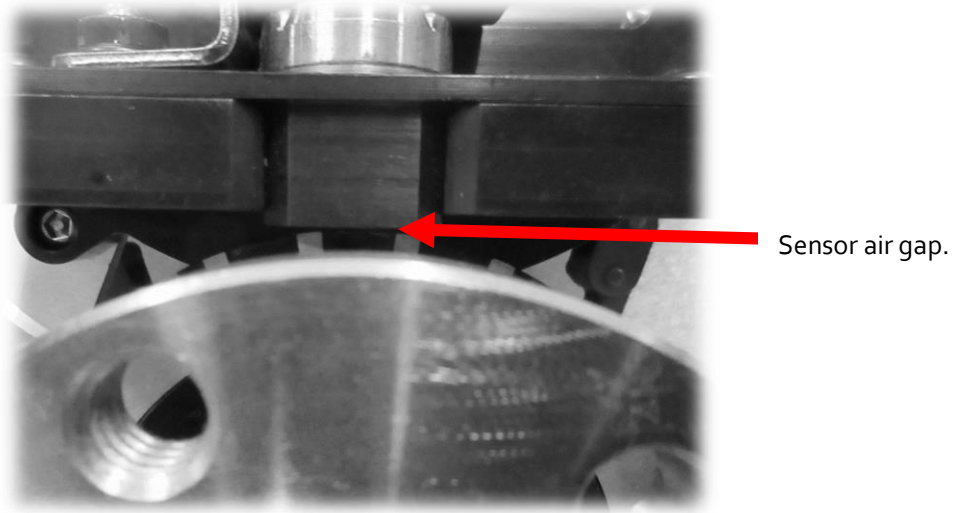

Figure 23
14. Test the air gap again with the yellow feeler gauge. If it passes through, even if slightly tight, that is OK the crank sensor air gap is now set (Figure 23). If it still does not pass through repeat step 13 & 14, adding one shim at a time, until the yellow feeler gauge passes through.